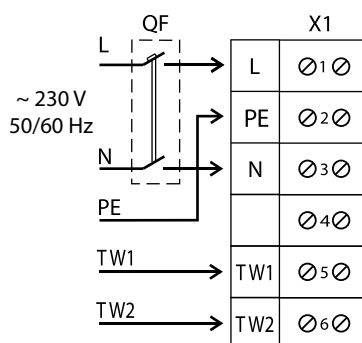

Fig. 2
The wiring diagram for the CENTRO-M 400, CENTRO-M 450 fans is shown in Fig. 2. The wiring diagram for the other fans is shown in Fig. 3. The fans with a speed controller and temperature and speed controller (CENTRO-M FR(FR1)) are designed for connection to single-phase AC power mains 230 V/50 (60) Hz and are equipped with a power cord and a plug (supplied connected to the terminal block).